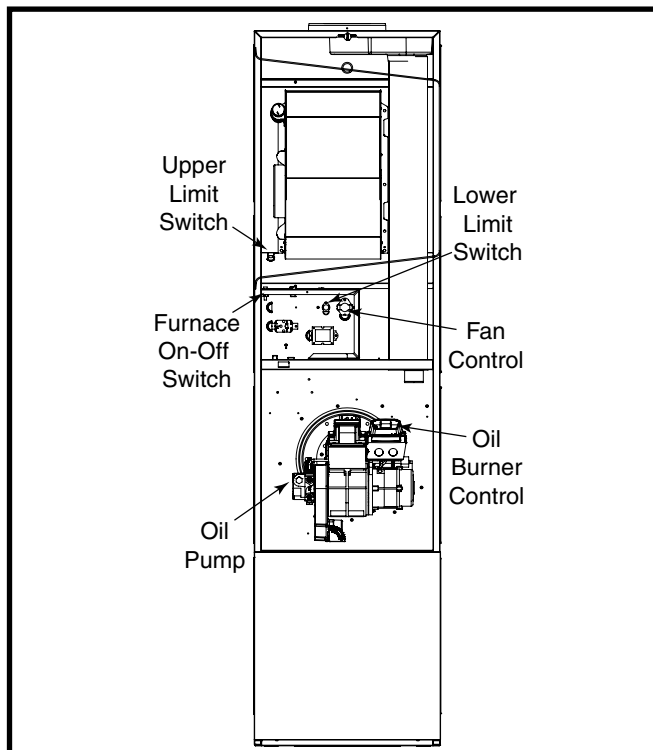

Figure 28. Furnace Controls - Oil Furnace
- Verify the furnace door switch is in the **ON** position. See Figure 28 \(page 19\).
Furnace On / Off Switch: This switch turns electrical power to the furnace on and off. The switch must be set in the ON position for the furnace to operate. If blower operation is not desired, the furnace On-Off switch may be set in the Off position to cut the electrical power to the furnace. See Figure 28.
Limit Control: This furnace is protected by two high temperature safety limit switches. The auxiliary (upper) limit switch and the high temperature (lower) limit switch are automatic reset types. If either limit trips, the burner will shut off. If either limit switch trips off again soon after resetting, set the furnace furnace On-Off switch to the Off position and call your authorized serviceman. See Figure 28.
Oil Burner Primary Control: The primary control for oil gun furnaces starts the burner, monitors a safe operating cycle, and shuts the burner off at the end of a heating cycle. The control uses a light sensing transducer to determine if fuel ignition has been successfully attained. If ignition is not attained by the end of the safety ignition timing period, the control shuts the burner off and enters "lock-out." See Figure 28.